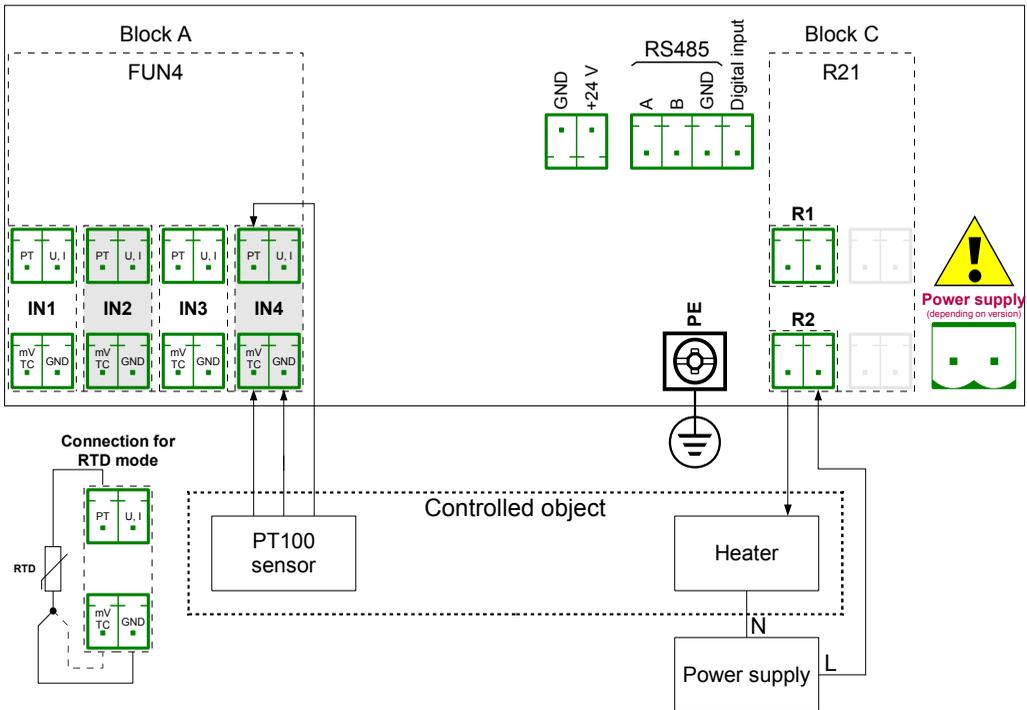

Fig. 7.90. Schematic diagram for the FUN4 hardware configuration in RTD mode and output hardware configuration
First configure the device as described below, then connect the object and power supply as shown in **Fig. 7.90**.
To control temperature in the object shown in **Fig. 7.90**, it is necessary to configure one **Logical channel** and **Relay output**.
- **Source** parameter set as **Inp.A4 : Universal** (see **Fig. 7.90**),
- using the arrows in the top navigation bar, select a relay output which is connected to the heater. For this example it is the output named **Out.C2 : Relay** (see **Fig. 7.90**),